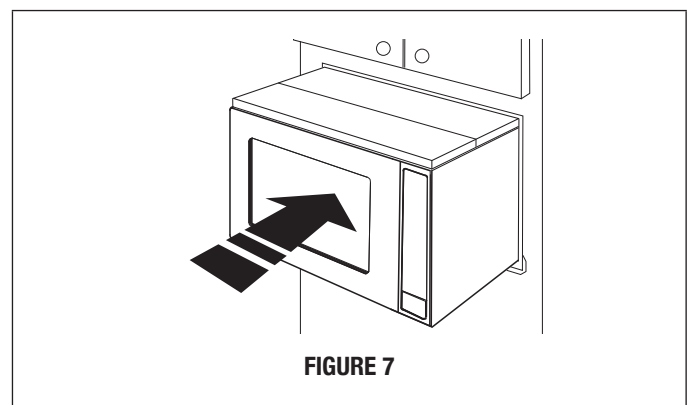

FIGURE 7
B. CABINET INSTALLATION: Place the oven adjacent to the wall or cabinet opening. Plug the power cord into the electrical outlet. Carefully guide the assembled oven into the prepared opening. Slide the oven on the BOTTOM DUCT ASSEMBLY. See Figure 7.
A. Place the Exhaust Duct Assembly in the center of the opening. Align the front edge of the duct with the front of the cabinet. Align the front edge of the right side of the duct with the front of the shelf. See Figure 7.
B. Secure the Exhaust Duct Assembly with 2 SCREWS (H). See Figure 7.